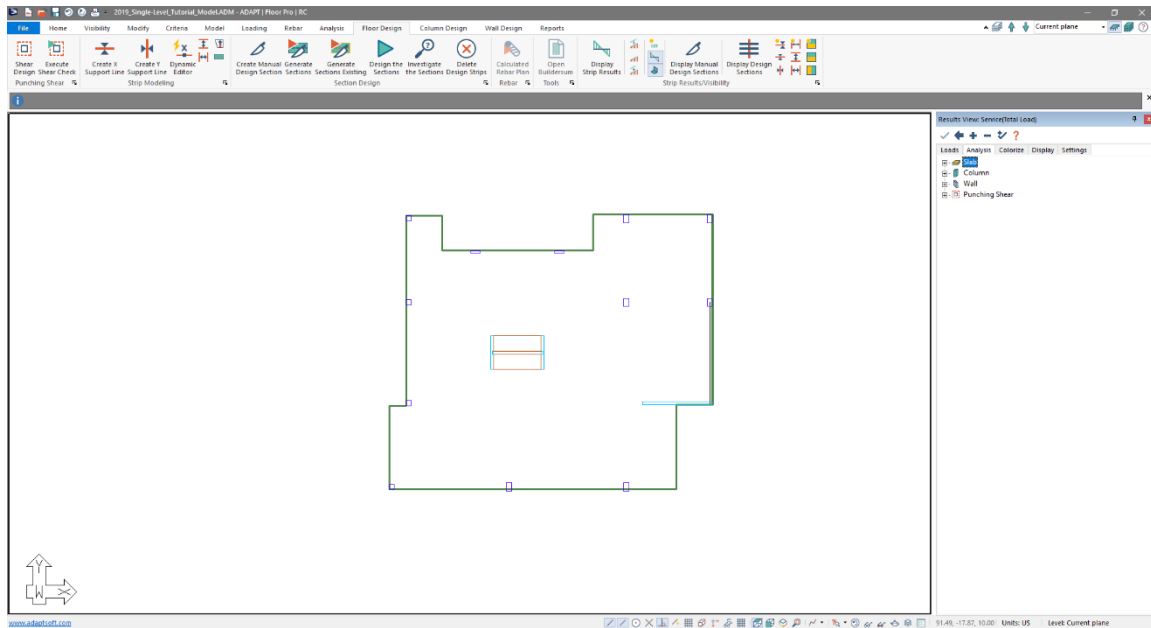

Figure 7-5
- The users should now see the model as shown in **FIGURE 7-5**.